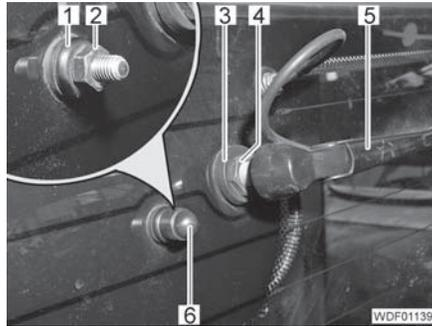

Fig. 423 Windshield wiper motor attachment
- Remove the windshield wiper arm (Fig. 423,5) (see the section 7.3.1 "Replacing the windshield wiper arms").
- Remove the cap (Fig. 423,6).
- Undo the 2 nuts (Fig. 423,2 and 4).
- Hold the windshield wiper motor (Fig. 422,1) and unscrew the 2 nuts (Fig. 423,2 and 4).
- Remove the seals (Fig. 423,1 and 3) and reuse them.
- Screw on 2 nuts (Fig. 423,2 and 4) with seals (Fig. 423,1 and 3) onto the threads and tighten.
- Fit cap (Fig. 423,6) onto the nut (Fig. 423,2).
- Install the windshield wiper arm (Fig. 423,5) (see the section 7.3.1 "Replacing the windshield wiper arms").